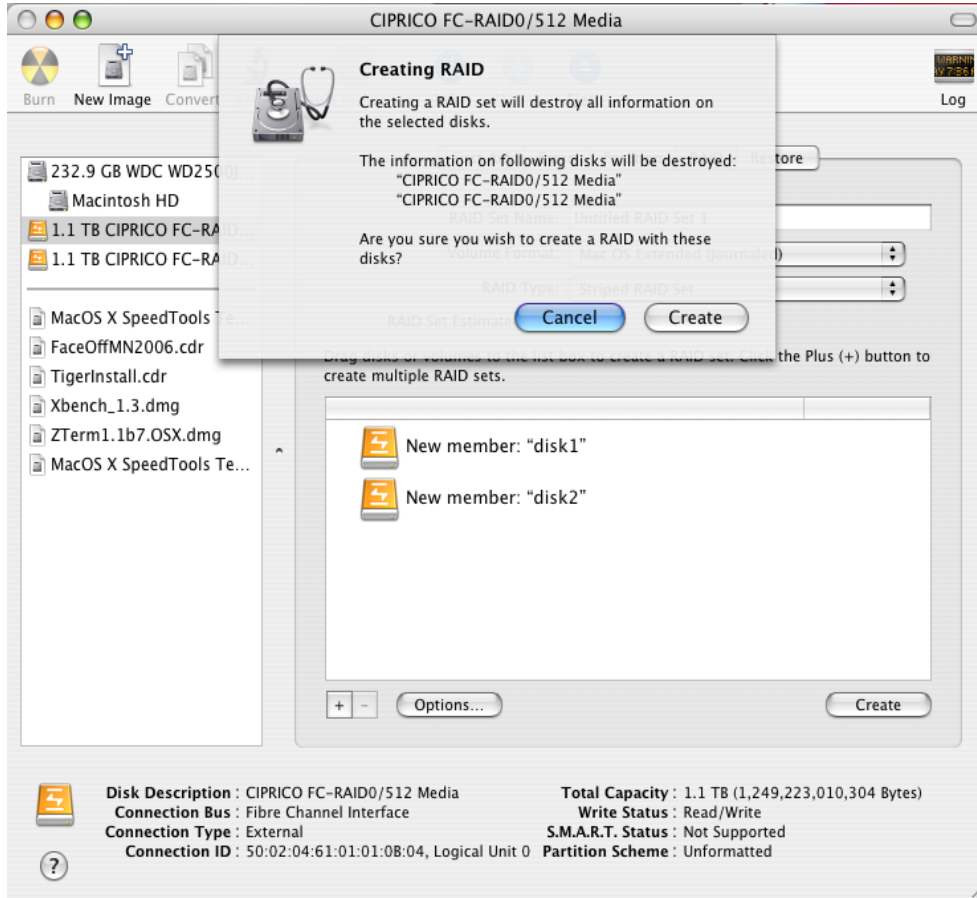

FIGURE 6-12. Partition Disk Warning Screen, Displayed Before a RAID Set is Created.
12. A *Partition Disk* screen appears. It warns about destroying data when a RAID set is created. To continue with creating the RAID, click the **PARTITION** button on this screen. See Figure 6-12.